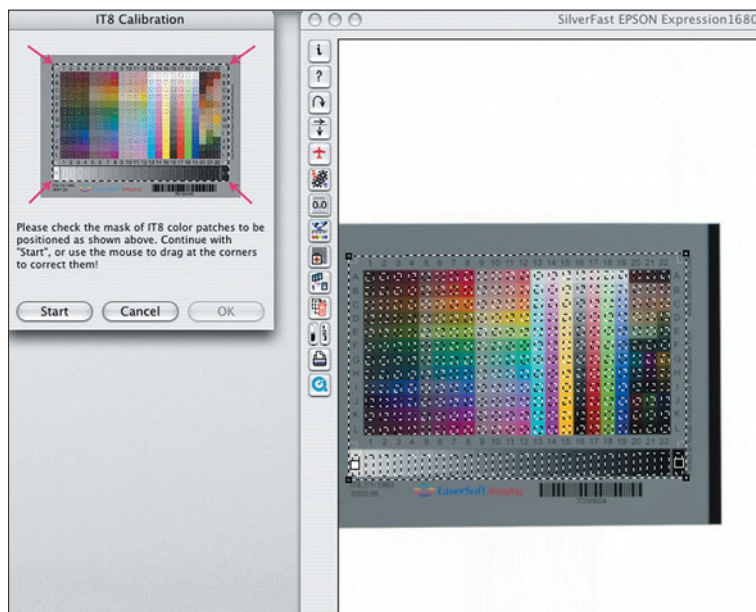

Figure 3.17 When you activate its calibration module, SilverFast prompts you to align a marquee along the edges of the IT8 target's color patches.
3. Call up your preferred calibration software (see Figure 3.17).